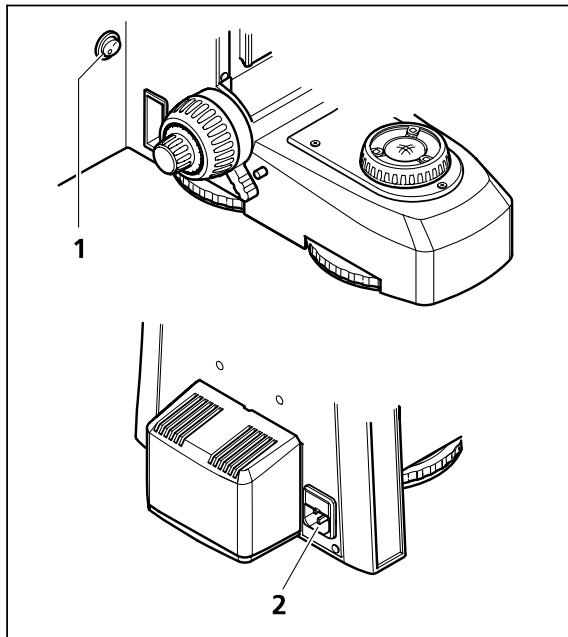

Fig. 3-35 Lower stand part for HAL 50 illumination (proceed analogically for LED illumination)
- Connect the microscope's power supply (Fig. 3-35/2) with its power cord to an electrical outlet. The microscope can adjust to a power and voltage range of 100 to 240 VAC, 50 ... 60 Hz. The power supply unit adjusts **automatically** to the available voltage.
- Turn the power switch (Fig. 3-35/1) of the microscope with lower stand part for LED or HAL 50 illumination either on or off.